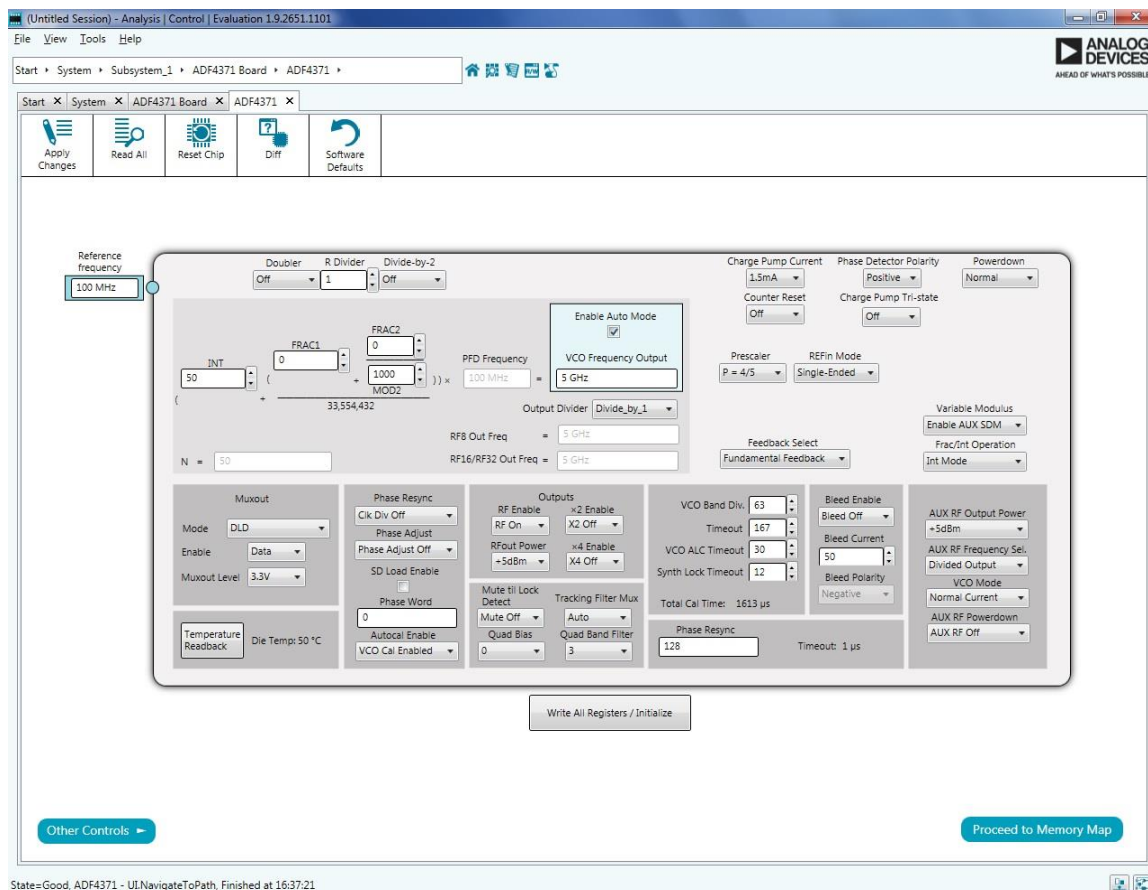

Figure 8. Software Front Panel Display, Main Controls
3. Double click the **ADF4371** icon that appears on the board GUI to open the main control window shown in Figure 8.
The main controls are available in the high level register map shown in Figure 8. To modify registers, perform the following steps: